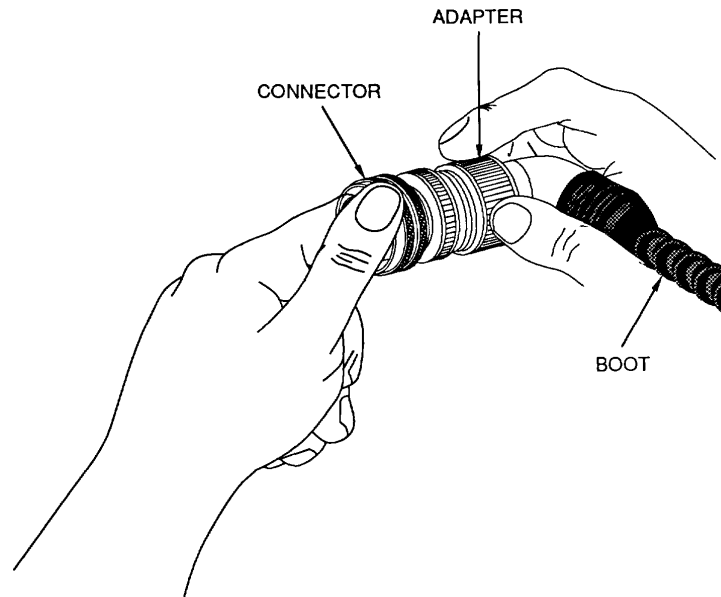

Figure 11. Coupling Installation
- e. Screw coupling ring onto connector (Figure 11).